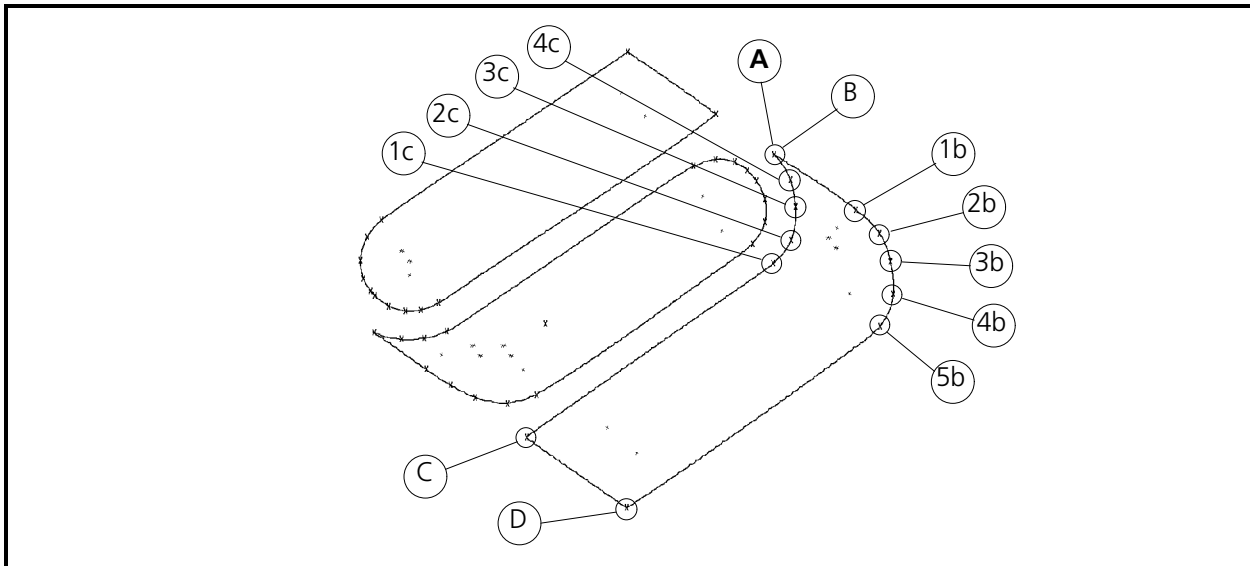

Figure 3-64
2. Now, without any further instructions, use the knowledge you have acquired and follow the illustrations associated with the third section (as shown in Figure 3-64) to complete the fill stitching of the Saurer logo. If you have problems, refer to the previous sections for help.